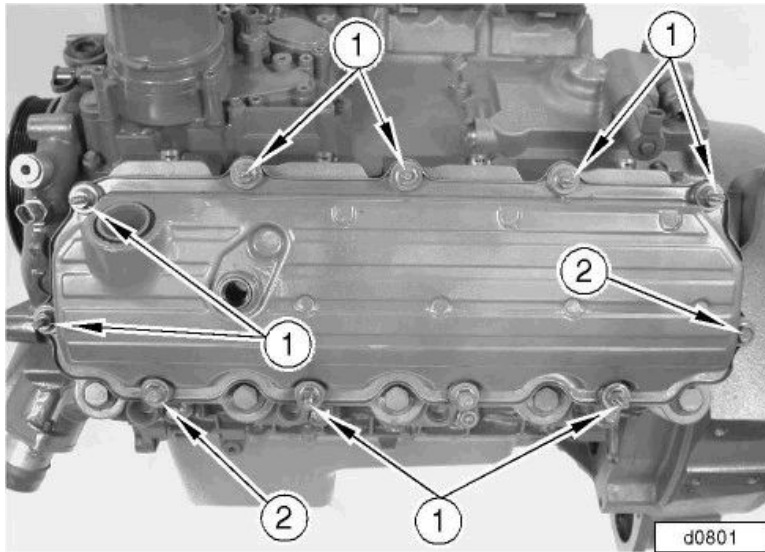

Figure 1 Remove Studs and Bolts
11. Remove the studs, bolts (Figure 1) and left valve cover.
- 13. Install the valve cover mounting bolts and studs in the correct locations as shown in Figure 1. Leave the bolts finger tight until all bolts and studs are installed then tighten to 60 to 84 Lbf-in (7 to 9 Nm).